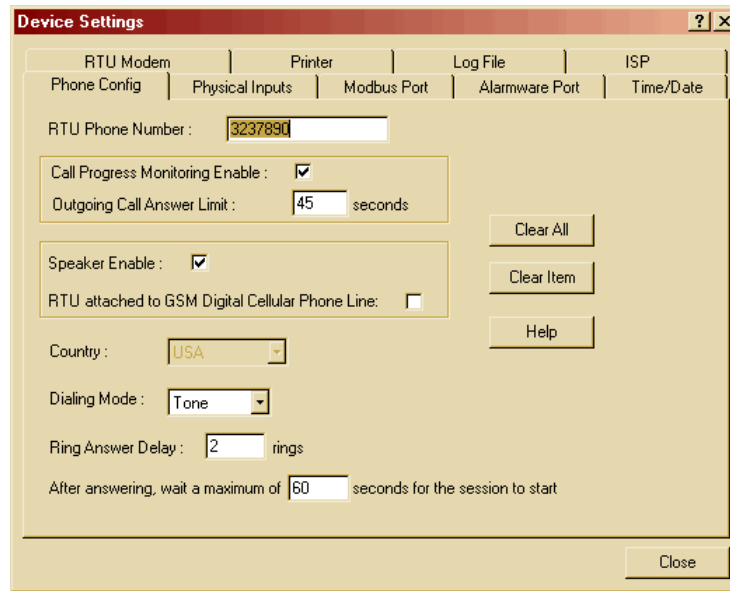

Figure 13: Device Settings, Phone Config
10. Then click the **Configuration** menu selection in the **Menu Bar** of the **Alarmware for Catalyst** window and select **Devices**. Select the **Phone Config** tab and enter the **RTU Phone Number**. The other setting can remain as shown in Figure 13.